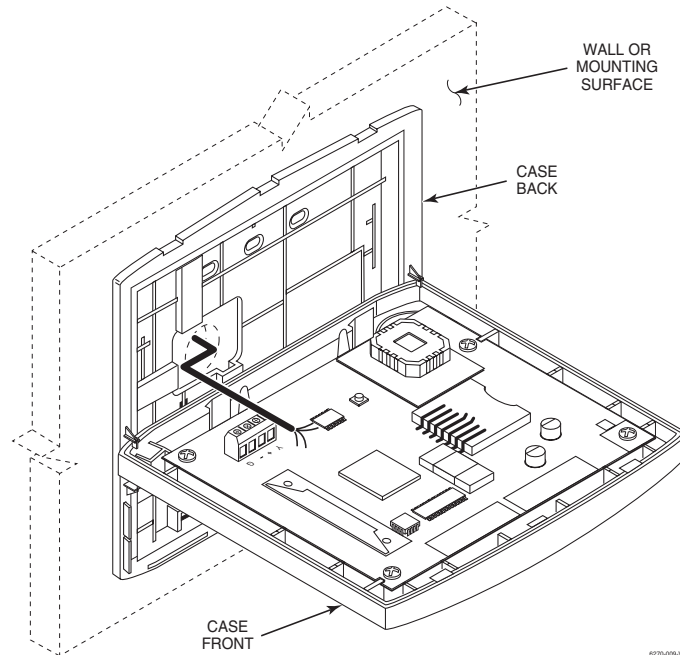

Figure 2. Wiring Preparation
1. The FA700KP has holding clips on the case back to hold the case front while you are wiring the unit. Hang the case front on the holding clips as shown in Figure 2.